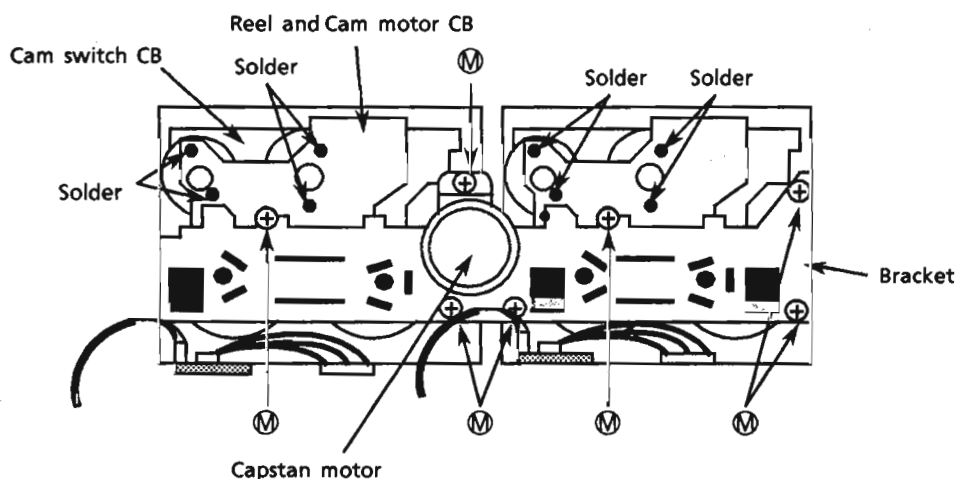

Figure11 (The digital echo CB is removed)
3. Remove the bracket installed the capstan motor (Refer to figure 11).
4. Remove the 4 screws ① and ② fixing the motors to remove the reel and cam circuit board with the motors .
3. Remove the 7 screws ③ fixing the bracket on which the capstan motor is installed (Figure 11).
3. Remove the 7 screws (M) fixing the bracket on which the capstan motor is installed (Figure 11) and remove the bracket.